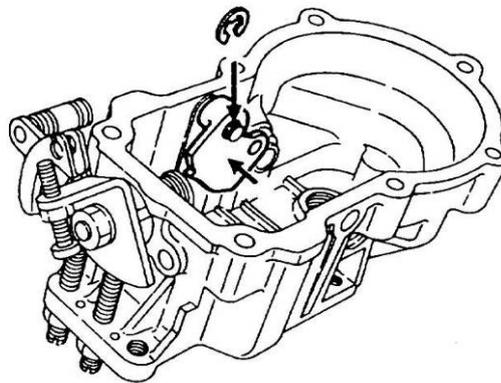

Figure 112 Installation of the Torque Cam
- i. Position the torque cam on the pivot pin in the governor cover (Figure 112) and secure the torque cam in place with a new snap-ring.